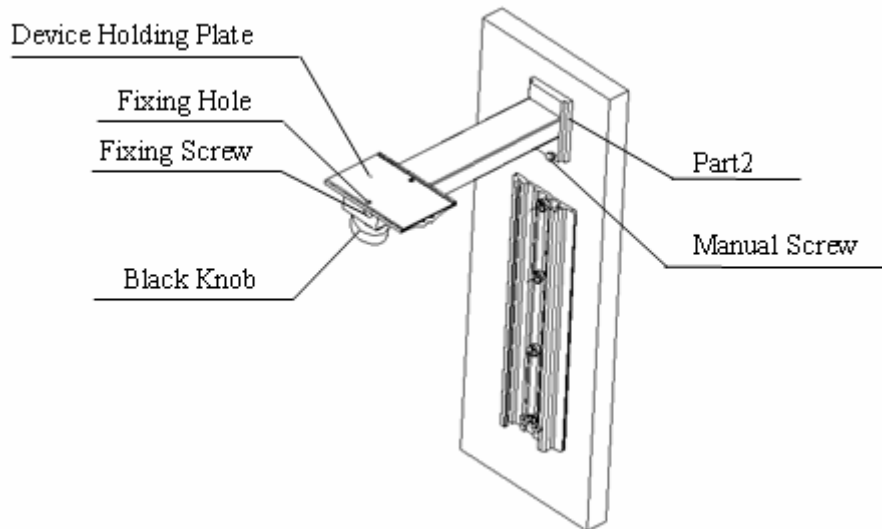

Figure2-2
4. Slide the arm (part2) into channel (part1) as Figure2-2 shown to the desired location.